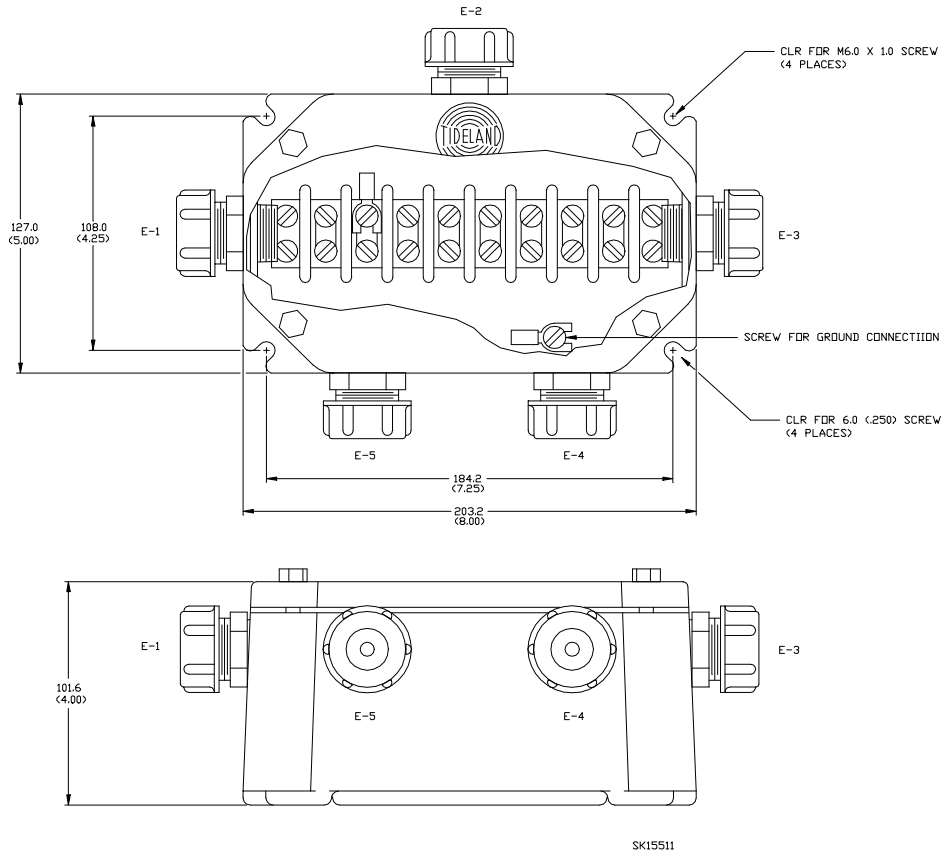

Figure 2.7 Mounting Dimensions for JB-5R Junction Box
2. Locate the appropriate box and mount it. See Figure 2.7 for JB-5R mounting dimensions and Figure 2.10 for DB-5P mounting dimensions.